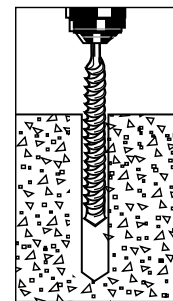

Figure 4
6. Drill the marked holes using a 1/4" masonry drill bit. Drill the holes into the concrete base to a depth of at least 1/2" deeper than the length of the 1/4" x 3" Wedge-Bolt Anchors. Blow the hole clean of dust and debris (Figure 4).